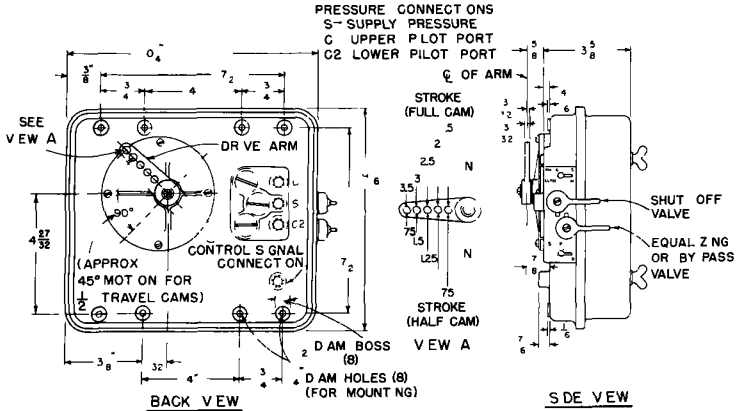

FIGURE 3 - Bailey Positioner
c Turn bypass valve to CLOSED-AUTO position (see Figure 3). Then remove bypass valve handle so this position cannot be changed
2. Assemble connecting link (8) to properly marked hole in Positioner drive arm with screw (9) and stop nut (13). Marked hole in drive arm should correspond to specific valve stem travel (stroke) for positioning cam used as explained below.
a. For a 3/4 or 1 inch stroke, assemble connecting link to hole marked .75 or 1 on HALF CAM STROKE line (see Figure 3).
3. Assemble Positioner and connecting link assembly (step 2 above) to mounting bracket (3) with screws (9) and lockwashers (10)
9 Connect tubing (4) as required between Positioner connection C2 and diaphragm case Assemble male connector (20) to Positioner connection S. Connect supply (50 psig maximum) and control pressure lines to connections at side of Positioner case (Figure 3). After connections are made and air is supplied to